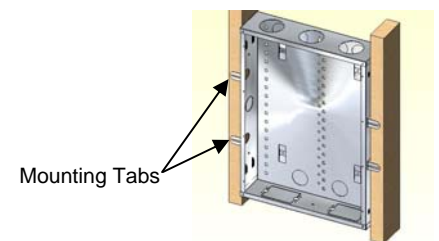

**Figure 1**
- B. If cable access is to be through the back of enclosure, remove wire access knockouts from rear of enclosure. (See **Figure 1**).
- C. Position enclosure in desired location and mark top of center keyhole opening located on the top center of enclosure (See **Figure 1**).
- E. Hang enclosure on screw and mark four (4) mounting holes and wire access holes on plywood. (See **Figure 1**). Also mark top and bottom of enclosure.